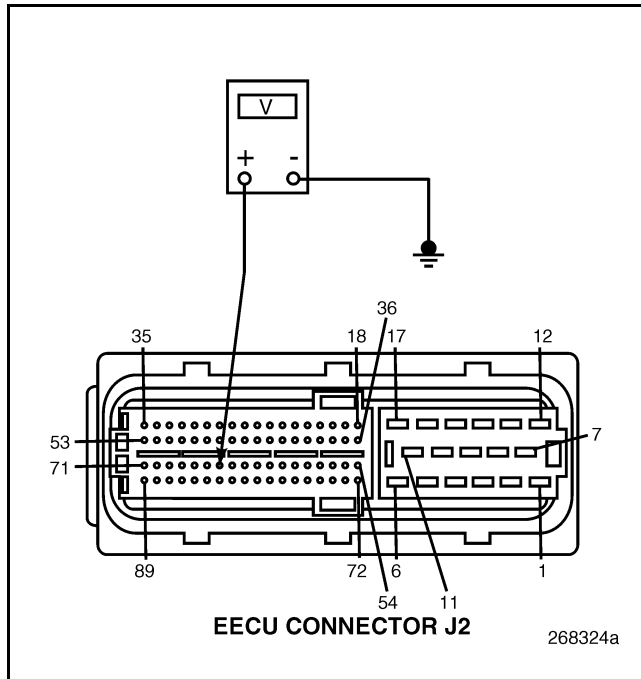

Figure 309
5. Measure the voltage between EECU harness connector J2 pin 65 and a good ground (see Figure 309).